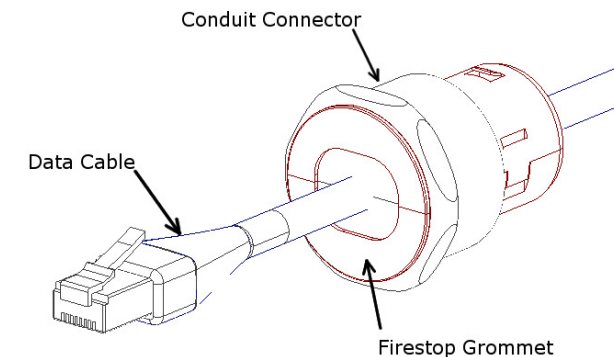

Figure 4
**Step 4** – Run the data cable through the conduit connectors located on sides of the *access point enclosure*. Pull the data cable through the conduit connector far enough to allow attachment to the access point (8" - 10"). Snap the grommet on to the cable and slide it inside the conduit connector (Ref. Figure 4).